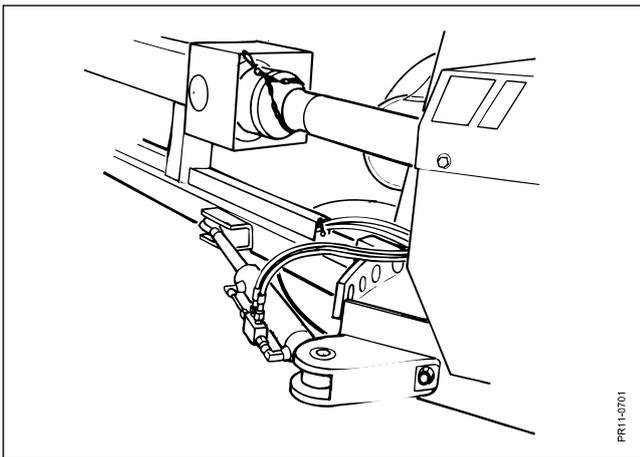

Fig. 5.3
**Fig. 5.3** If the accessories for hydraulic transport readjustment have been mounted on the machine, the drawbar can be placed in transport position by the hydraulic cylinder. A safety valve ensures that the machine stays in transport position if the hoses are damaged.